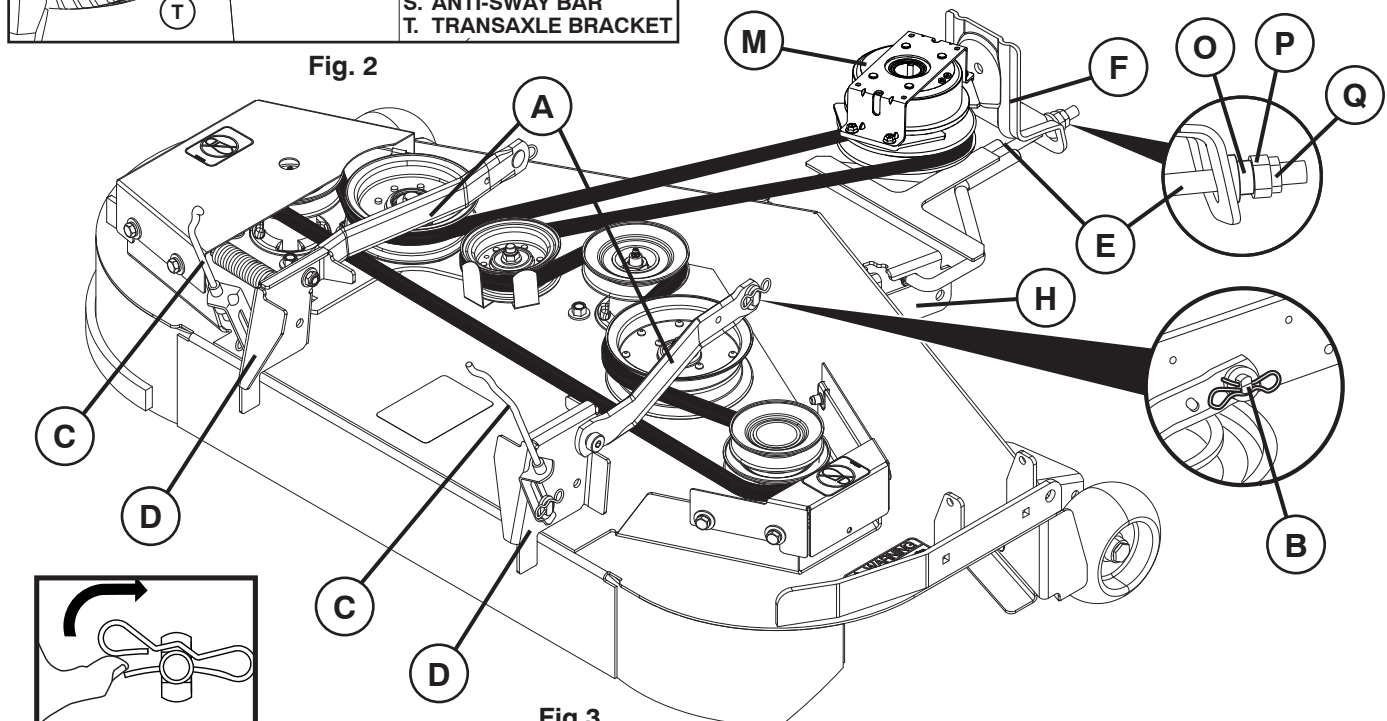

Fig.3
**NOTE:** Ensure mower side suspension arms (A) are pointing forward before sliding mower under tractor.
- Install flared ends of front link (E) into slots in front mower bracket (H). See Fig. 3.
- Install belt onto electric clutch pulley (M).